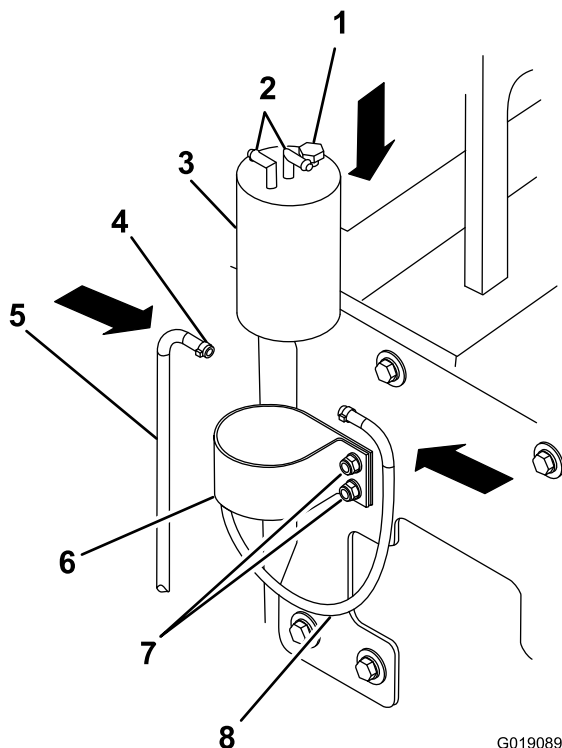

Figure 66
- Remove the hex-head plug from the replacement fuel filter/water separator (Figure 66).
- Install the replacement canister in straps with the hex-head plug toward the heat shield (Figure 66).
- Tighten the nuts that secure the filter/separator canister and strap to the heat shield (Figure 66).
canister. Slide the hoses over the fittings of a new filter/separator canister (Figure 66).